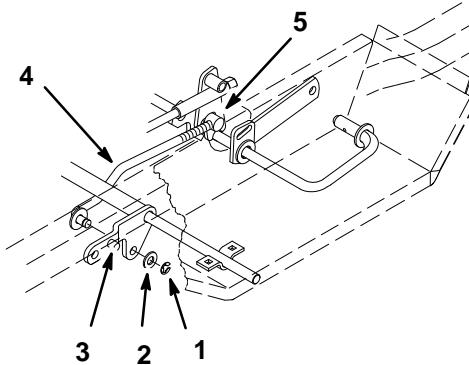

Figure 6
- Remove E-ring, washer and lift link from front lift arm (Fig. 6).
- Hold front lift arm up until stop contacts frame (Fig. 6).
- Adjust length of lift rod, by turning in\out of trunnion, so end just slides into mounting hole in front lift arm (Fig. 6).
- Slide lift rod into hole and secure with previously removed washer and E-ring (Fig. 6).